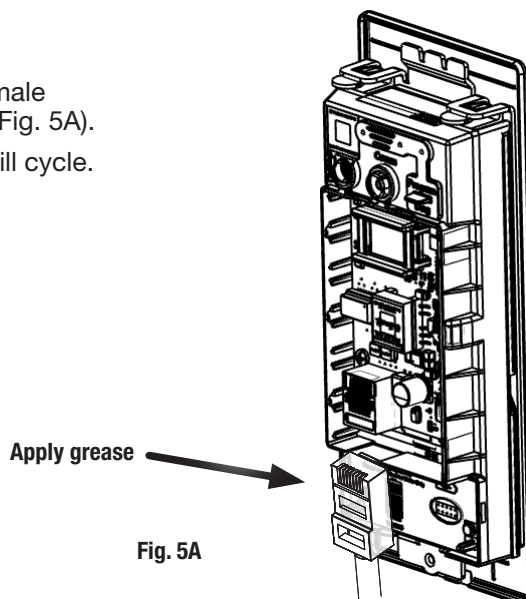

Fig. 5A
**Important - before inserting PoE plug into PoE connector, apply dielectric grease to top of plug, covering the pin area (Fig. 5A).**
1. Once controller is securely in place, connect RJ45 male connector to female RJ45 port on controller board (Fig. 5A).